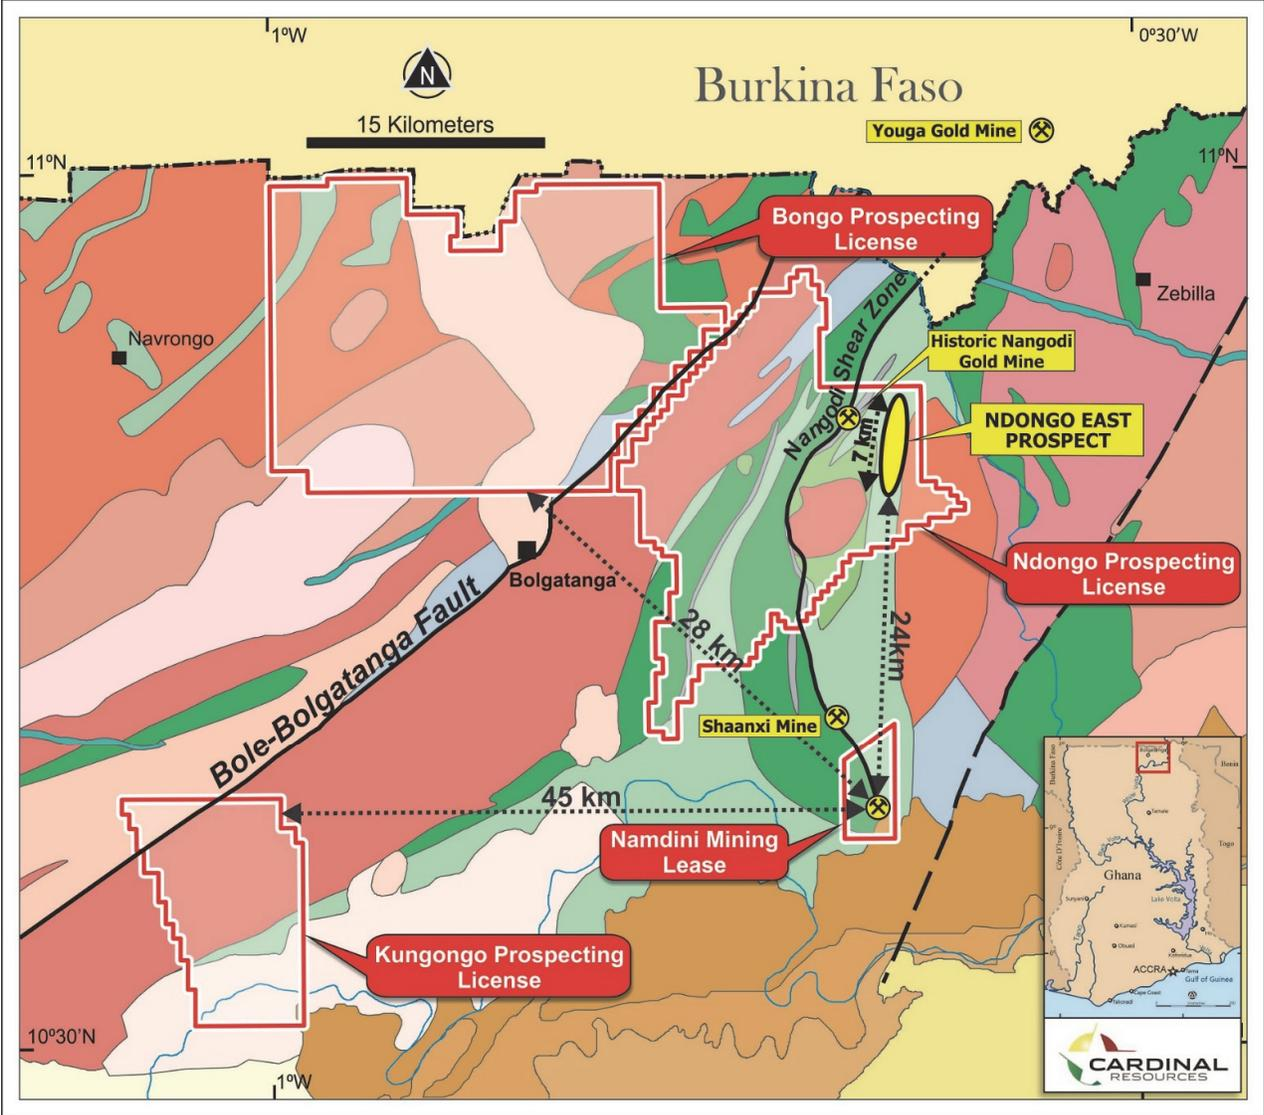

Figure 1: Cardinal’s Tenements comprising the Bolgatanga and Namdini Projects
**Cardinal Resources Limited** (ASX/TSX: CDV) (“**Cardinal**” or “**the Company**”) is pleased to announce further intersections of shallow, high-grade gold mineralisation from a 15-hole, 883 metre Diamond Drill programme at the Ndongo East discovery located approximately 24km north and within hauling distance of the Company’s Namdini Gold Project for which Cardinal declared an **Ore Reserve of 5.1Moz** (0.4Moz Proved and 4.7Moz Probable) on 02 April 2019 (Figure 1).
The Ndongo Prospecting License covers an area of 295 km2 and is considered highly prospective for the discovery of economic gold mineralisation associated with the prolific Nangodi Shear Zone, a splay fault off the main regional-scale Bole-Bolgatanga Shear. Elsewhere, the Nangodi Shear Zone is spatially related to no fewer than four gold discoveries, including the Company’s Namdini Gold Project with a 5.1Moz Ore Reserve, the Shaanxi Gold Mine, the historical Nangodi Gold Mine and the Youga Gold Mine in Burkina Faso, adjacent to the Ghanaian border. In addition, there are numerous historical shallow artisanal workings along many parts of this shear zone ~15 to 25 km north of the Namdini Gold Project (Figure 1).